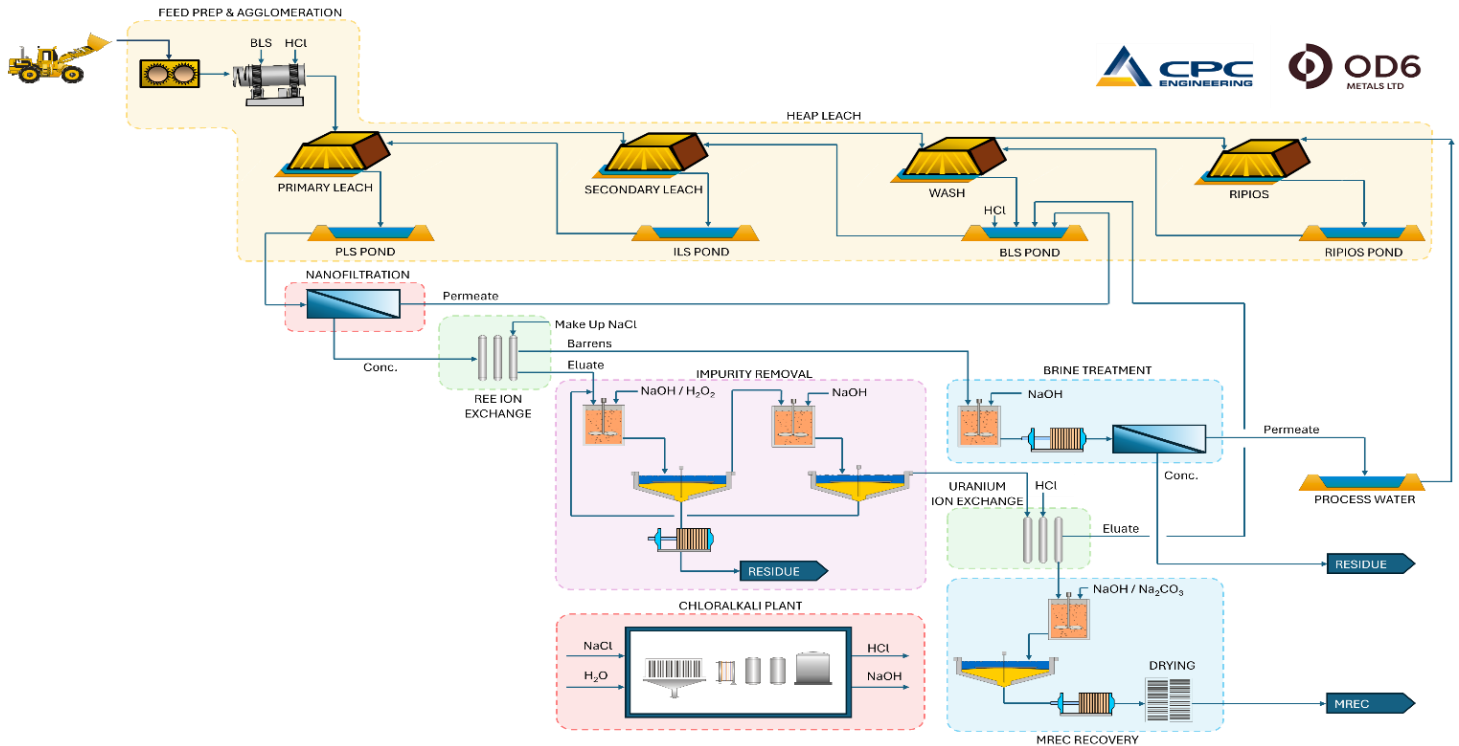

Figure 1: Preferred Process Flowsheet from ANSTO Testwork and CPC Optioneering Study (refer ASX 1-10-2025)
Six Metallurgical drill locations have been completed (Table 1 and Figure 1) utilising PQ diamond core (85mm core), which have been twinned next to existing AirCore drill hole locations previously utilised metallurgical testwork conducted at ANSTO.
**Figure 1:** The Inside Centre Indicated Resource (shown in red) and the selected holes twinned (shown in yellow). The figure also shows the Existing Centre Inferred Resource (shown in orange) plus shows mineralisation remains open to the SW and NE within the modelled clay basin airborne electromagnetic survey
Inside Centre has delivered standout metallurgy and forms the Indicated component of the current resource (119Mt @ 1,632ppm TREO), supporting near-term development studies. There remains significant upside to increase the existing JORC with mineralisation open to the SW and NE within the modelled clay basins (Refer to Figure 1 and ASX Announcement Mineral Resource Estimate Doubles)
OD6, CPC and ANSTO have successfully demonstrated and recommended a multi-stage processing pathway outlined in Figure 1, that efficiently produces a superior quality product with low impurities, that has achieved high REE element total flowsheet recoveries.